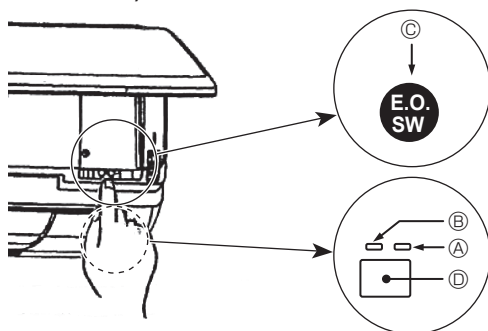

Fig. 5-1
- [Fig. 5-1] ① DEFROST/STAND BY lamp (Orange)
② Operation lamp (Green)
③ Emergency operation switch (cooling/heating)
④ Receiver